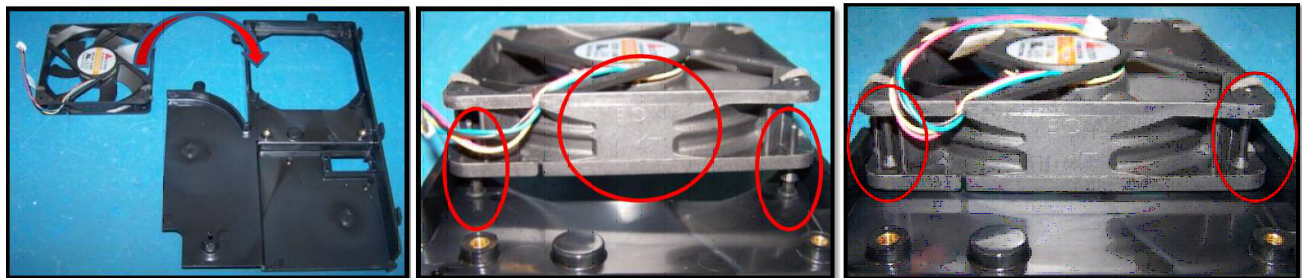

Figure 5 Install Fan into Casing
5. Place Fan with Foam Pads attached in the orientation shown in Figure 5-left. (The middle duct is upside down.)
6. With the center label and the arrow shown pointing up, align the 4 corner holes of the fan onto the 4 silicone mounts as shown in Figure 5-center. (Note the position of the cables.)
7. Fully insert the 4 silicone mounts into the casing of the fan as shown in Figure 5-right.
8. Get a Duct Main Exhaust Bottom (011-101906-03) and flip the middle duct as shown Figure 5.